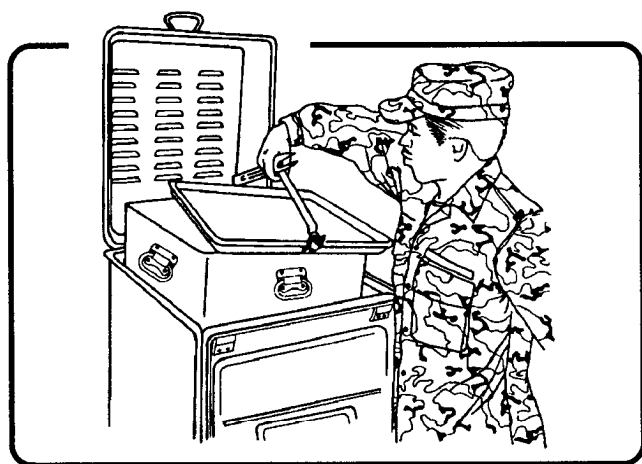

Figure 9-6. Removing sheet pan from the baking and roasting pan
**Cakes, cookies, and breads.** Place the burner unit in the bottom position. Put the empty baking and roasting pan on the field range top. Preheat the pan to the proper temperature. Place the sheet pan in the baking and roasting pan. (The five indentations in the bottom of the baking and roasting pan let the heat flow evenly around the sheet pan.) Close the cabinet door and lid. When the cake, cookies, or bread are done, use two forks to remove the sheet pan as shown in Figure 9-6, page 9-5.
*Bottom position.* Open the cabinet lid and place the baking and roasting pan on top of the field range. Preheat the pan before placing the product inside. Close the cabinet door and lid. In both positions, remove the sheet pan as shown in Figure 9-6.